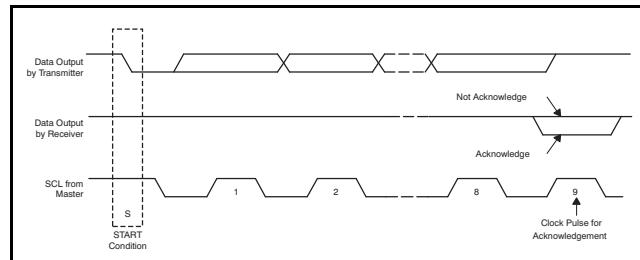
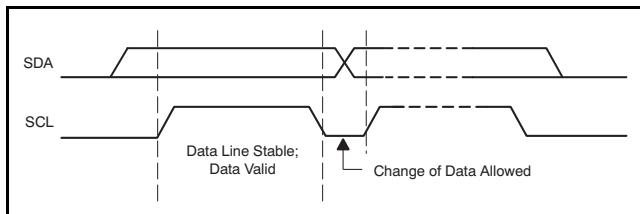

Figure 114. Acknowledge and Not Acknowledge Signals on the I2C Bus
Figure 115. I2C Bus Bit Transfer
Other than specific timing signals, the I2C interface works with serial bytes. At the end of each byte, a ninth clock cycle is used to generate/detect an acknowledge signal, as shown in Figure 114. An *acknowledge* is when the SDA line is pulled low during the high period of the ninth clock cycle. A *not-acknowledge* is when the SDA line is left high during the high period of the ninth clock cycle.
- The master initiates data transfer by generating a start condition, defined as when a high-to-low transition occurs on the SDA line while SCL is high, as shown in Figure 114. All I2C-compatible devices recognize a start condition.
- The master then generates the SCL pulses, and transmits the 7-bit address and the read/write direction bit (R/W) on the SDA line. During all transmissions, the master ensures that data are valid. A valid data condition requires the SDA line to be stable during the entire high period of the clock pulse, as shown in Figure 115. All devices recognize the address sent by the master and compare it to the internal fixed addresses. Only the slave device with a matching address generates an acknowledge by pulling the SDA line low during the entire high period of the ninth SCL cycle, as shown in Figure 114. Upon detecting this acknowledge, the master recognizes the communication link with a slave has been established.
- To signal the end of the data transfer, the master generates a stop condition by pulling the SDA line from low to high while the SCL line is high (see Figure 115). This action releases the bus and stops the communication link with the addressed